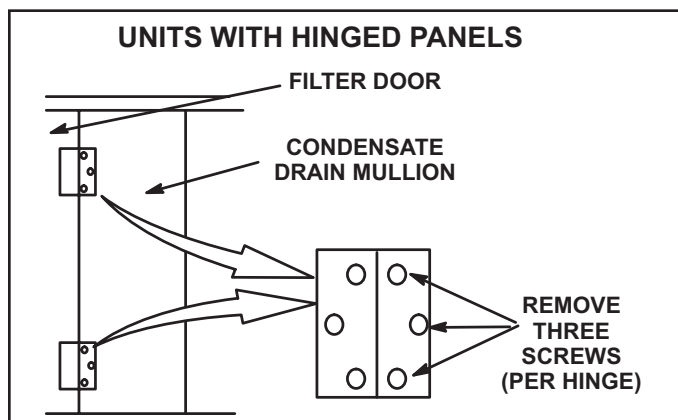

FIGURE 6
- 2 - Remove six screws from filter access door. Refer to FIGURE 6.